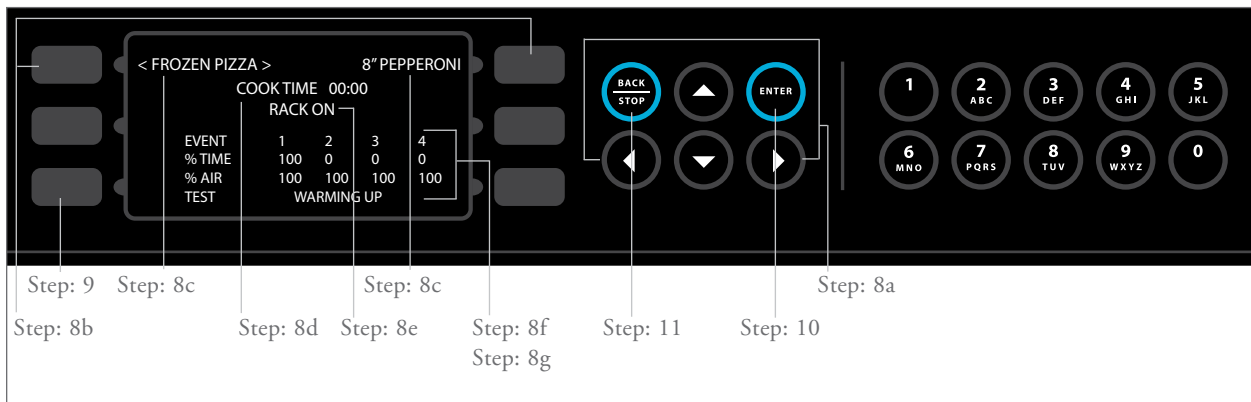

FIGURE 20: Modifying Recipes – Steps 8-11
8. From the **RECIPE EDIT** screen (Figure 20):